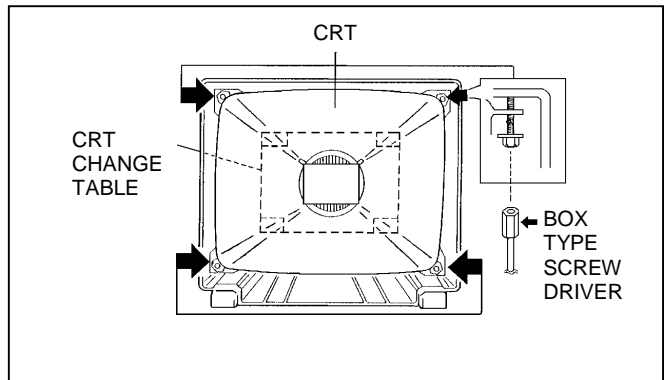

Fig. 6
3. Remove 4 screws marked by arrows with a box type screw driver as shown in Fig.6.